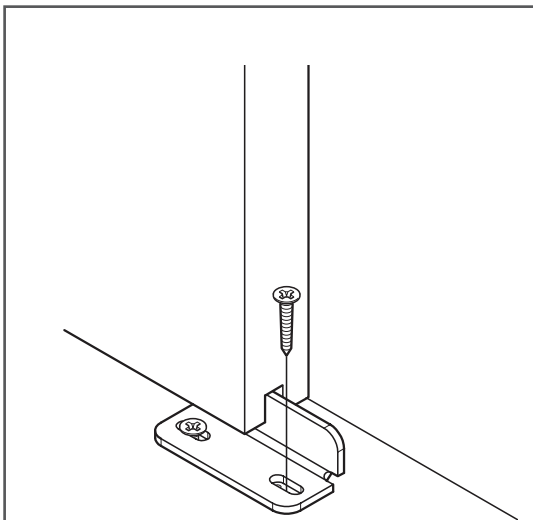

Figure 8
16. Install the second 1" phillips screw (provided) using a drill with a phillips bit (Figure 8).